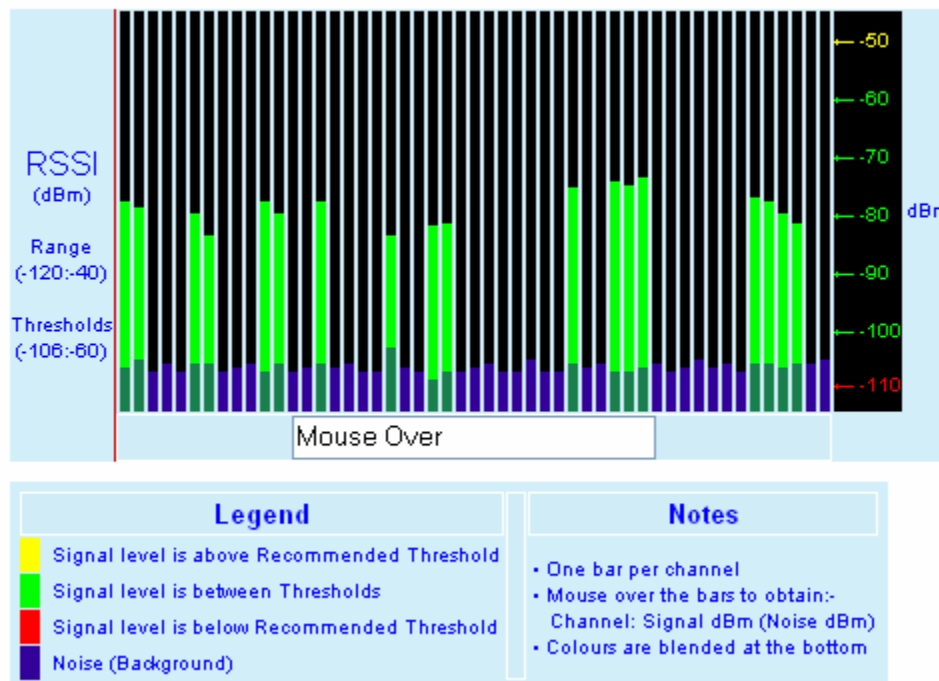

Figure 9
5. The Spectrum analyzer in the HiPR may be used to check for interference. Select Maintenance > Spectrum Analyzer (Figure 9).
There are two main visual characteristics to the display (see Figure 9):